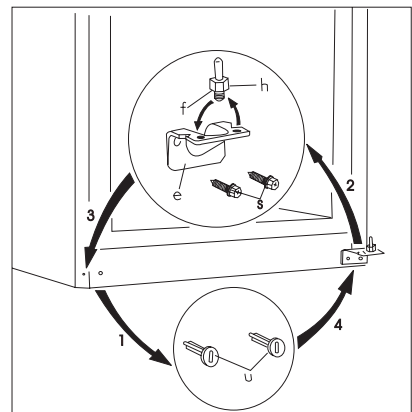

fig. 3.
10. Remove the plugs (u) at the bottom of the appliance. (fig.3)
11. Remove the lower hinge (e) by removing its screws (s) and mount it on the other side. (fig.3)
12. Unmount the lower hinge pin (f) and its washer (h) and mount them into the other hole of the lower hinge. (fig.3)